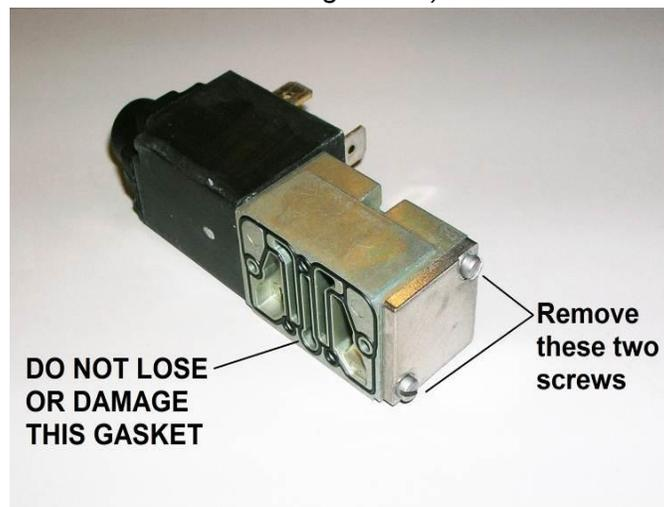

Figure 5-2: Gasket
3. Using the small flathead screwdriver, remove the two screws to the square metal cap (Figure 5-2).
****Note the black gasket on the underside Figure 5-2). Do not lose or damage this gasket.***